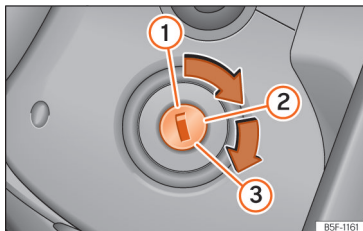

Fig. 136 Ignition key positions.
Key positions »» Fig. 136
- Turn the key to position » **Fig. 136 ②**. Preheating occurs in diesel vehicles .
- Keep turning the key to position » **Fig. 136 ③** without stepping on the accelerator.
- Once the engine starts, release the key. When it is released, the key returns to position **②**.
- *Vehicles with ignition locks:* Turn the key to position »» **Fig. 136** .